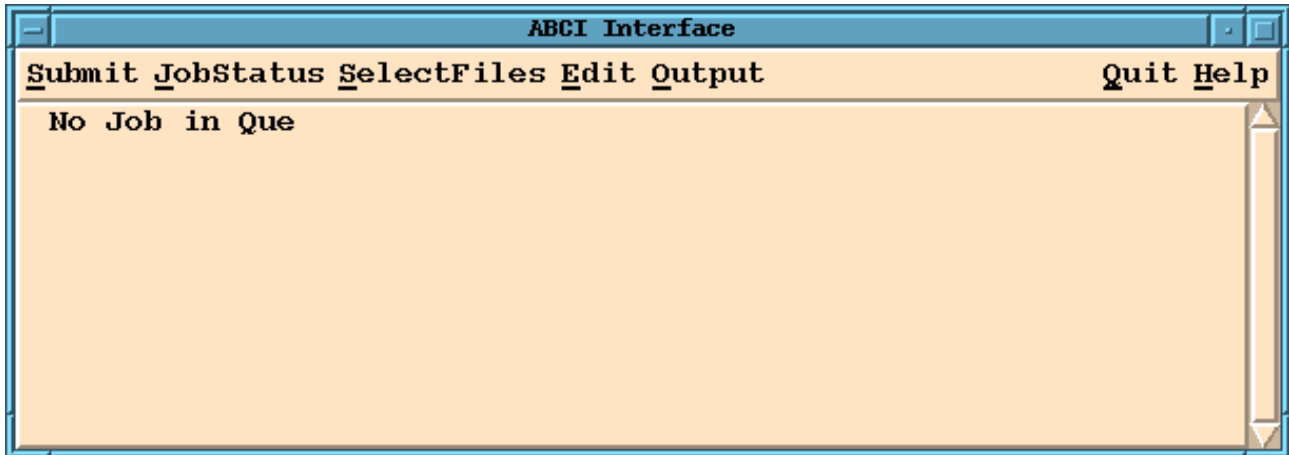

Figure 12: *The graphical user interface for the ABCI program.*
**ZBASE** offers graphical user interfaces and example input files to ABCI, URMEL, MAD and MAFIA. (All example input files are stored in the **examples** (→ page 3) sub-directory of the **ZBASE** directory (1).) All interfaces have the same layout. Fig. 12 shows the interface for the ABCI program. Each interface has one display area and one menu bar with seven menu buttons:
- The **SelectInput** sub-menu first shows a selection of different sources for the input file. The source directories are displayed in the display area of the interface (→ Fig. 12). The first lines show the **machine** labels in the data base. One line offers the selection of '**All selected items in the data base**', one line shows the **examples** directory of the **ZBASE** data base, one the users home directory and one the users **tmp** directory (→ Section 3). By double clicking with the left mouse button on one of the lines in the display, the user can browse through the listed directories and select an input file.
- The **SelectInput** sub-menu first shows a selection of different sources for the input file. The source directories are displayed in the display area of the interface (→ Fig. 12). The first lines show the **machine** labels in the data base. One line shows the **examples**
- The **SelectInputFile** sub-menu allows the selection of an input file. It first shows a selection of different sources for the input file. The source directories are displayed in the display area of the interface ( $\rightarrow$  Fig. 12). The first lines show the **machine** labels in the data base. One line shows the **examples** directory of the **ZBASE** data base, one the users home directory, one the users **tmp** directory and one the users **PARC** scratch directory ( $\rightarrow$  Section 3).
- The **SelectProfile** sub-menu allows the selection of a MAFIA profile file. It first shows a selection of different sources for the input file. The source directories are displayed in the display area of the interface ( $\rightarrow$  Fig. 12). The first lines show the **machine** labels in the data base. One line shows the **examples** directory of the **ZBASE** data base, one the users home directory, one the users **tmp** directory and one the users **PARC** scratch directory ( $\rightarrow$  Section 3).